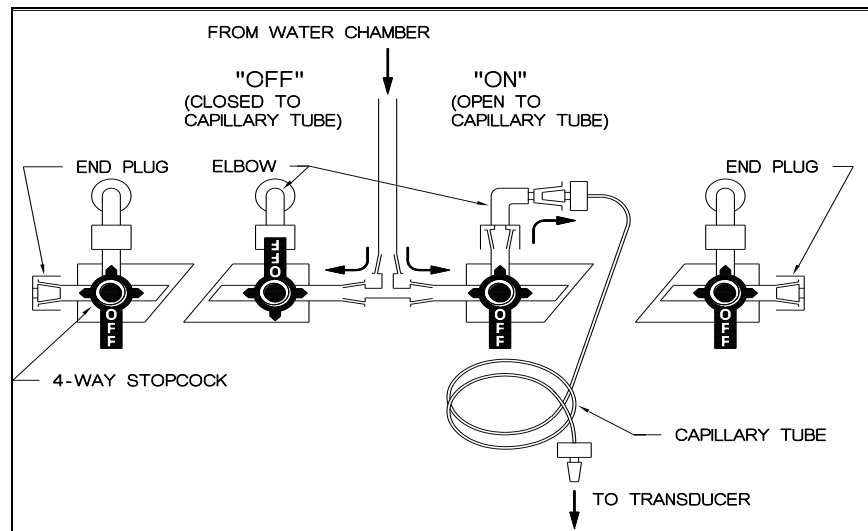

Figure 15. Stopcock Manifold
- Turn ON all the manifold stopcocks. (The off-handle on each manifold stopcock should point downward as shown in Figure 15).
- Turn ON (Figure 15, Section 4.4).
- First, check that the 4-way stopcocks on the stopcock manifold and on top of the transducer are in the fully open position (Figure 15, Section 4.4; Figure 9, Section 3.5).